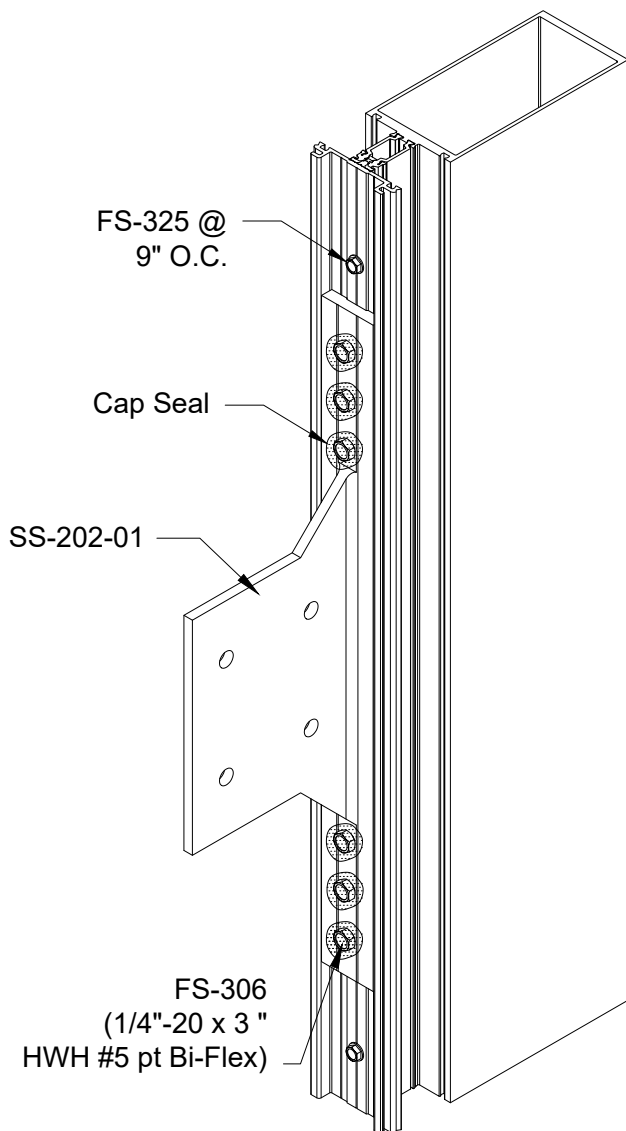

FIGURE 32
- 1) Cap seal fasteners at sunshade anchor. See **FIGURE 32**.